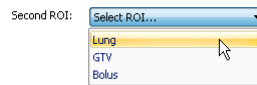

Figure 177 – Selecting the second ROI for algebra
4. Select the second ROI in the drop down list displayed when the **Second ROI** button is pressed (see Figure 177).